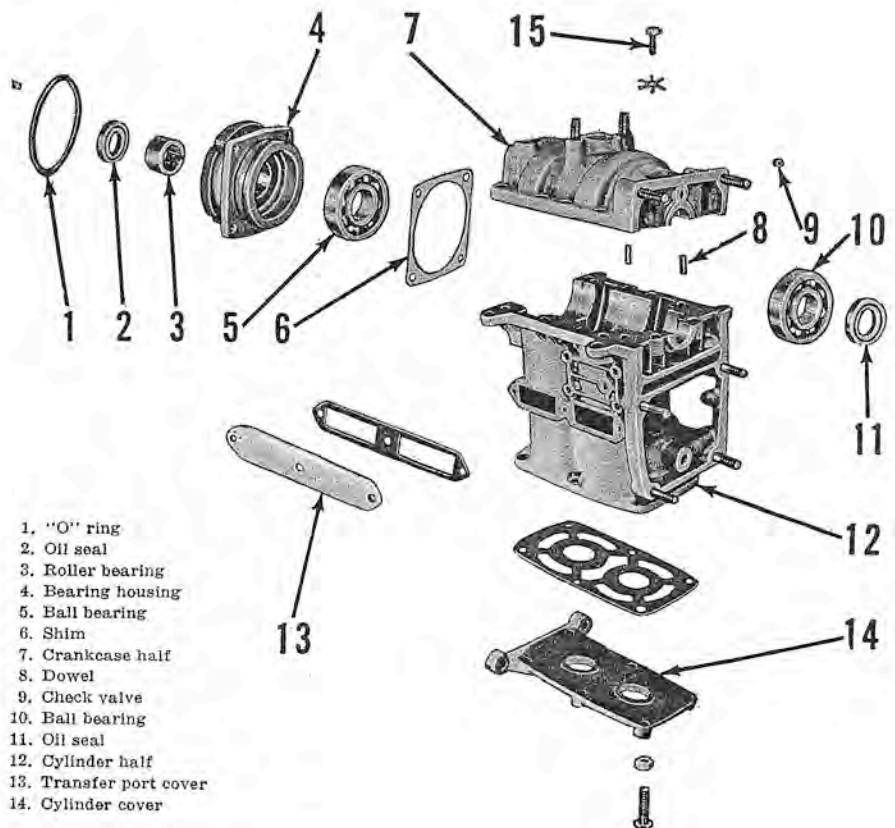

Fig. M34—Exploded view of powerhead crankcase and associated parts.
Remove the capscrews which retain upper end cap (4—Fig. M34) to power head, remove center main bearing locking screw (15); then unbolt and remove crankcase front half (7). **NOTE:** A special recess is located at the center on each side of crankcase half (7). Loosen the crankcase by carefully prying at these points **ONLY** with a screwdriver. Use extra care not to spring the parts or to mar the machined, mating surfaces. Crankcase half (7) and cylinder (12) are matched and align bored, and are available only as an assembly.
Make sure the center main bearing dowel (6—Fig. M35) is in place and that main bearing (5) is properly located over dowel. Assemble the upper main bearing cap (4—Fig. M34) and install over crankshaft using the shim pack (6) which was removed. Install and tighten the two cap screws which retain the cap to cylinder block, tap the crankshaft back and forth using a soft mallet, then measure the gap between bearing (5) and the crankshaft. The clearance should be 0.008-0.012. If it is not, remove the end cap and vary the thickness of shim pack (6) until the proper end play is obtained. Shims are available in thicknesses of 0.002, 0.003, 0.005 and 0.010.